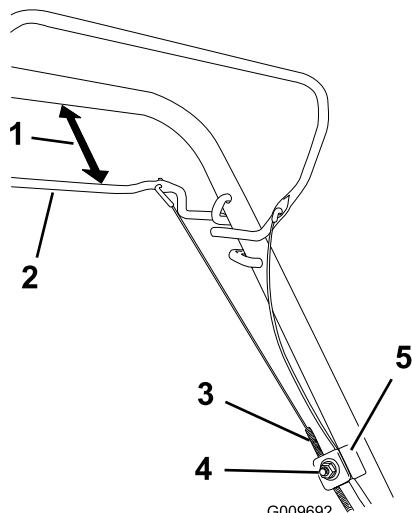

Figure 48
- Loosen the cable support nut (Figure 48).
- Hold the self-propel bail 1 to 1-1/2 inches (25 to 38 mm) from the handle (Figure 48).
- Pull down the cable jacket (toward the machine) until there is no slack in the cable (Figure 48).